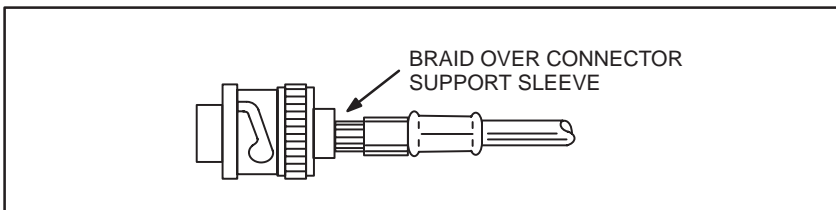

Figure 3.12 - Connector Installation Step 7 for RG-59/U
- Step 7. Insert the crimped center contact into the BNC connector body until the cable dielectric butts against the dielectric inside the connector body. The flared braid will then fit around the support sleeve of the connector body. See figure 3.12.